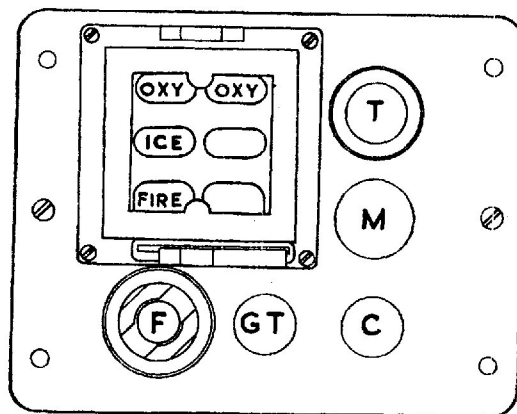

Fig 1. Indicator unit, Type C640
2. The unit groups on one indicator panel the appropriate emergency warning lamps for the aircraft, which are arranged as shown in fig. 1. Four screws secure the lamp panel to the light alloy case, on which are also mounted a 12-way test switch, Type C182/T; a cancel switch, Type C180/A1/C, a mute switch, Type C675/A2/M, a ground test switch, Type C180/F20/GT, and a fire-warning push-switch, Type C180/A3/F.